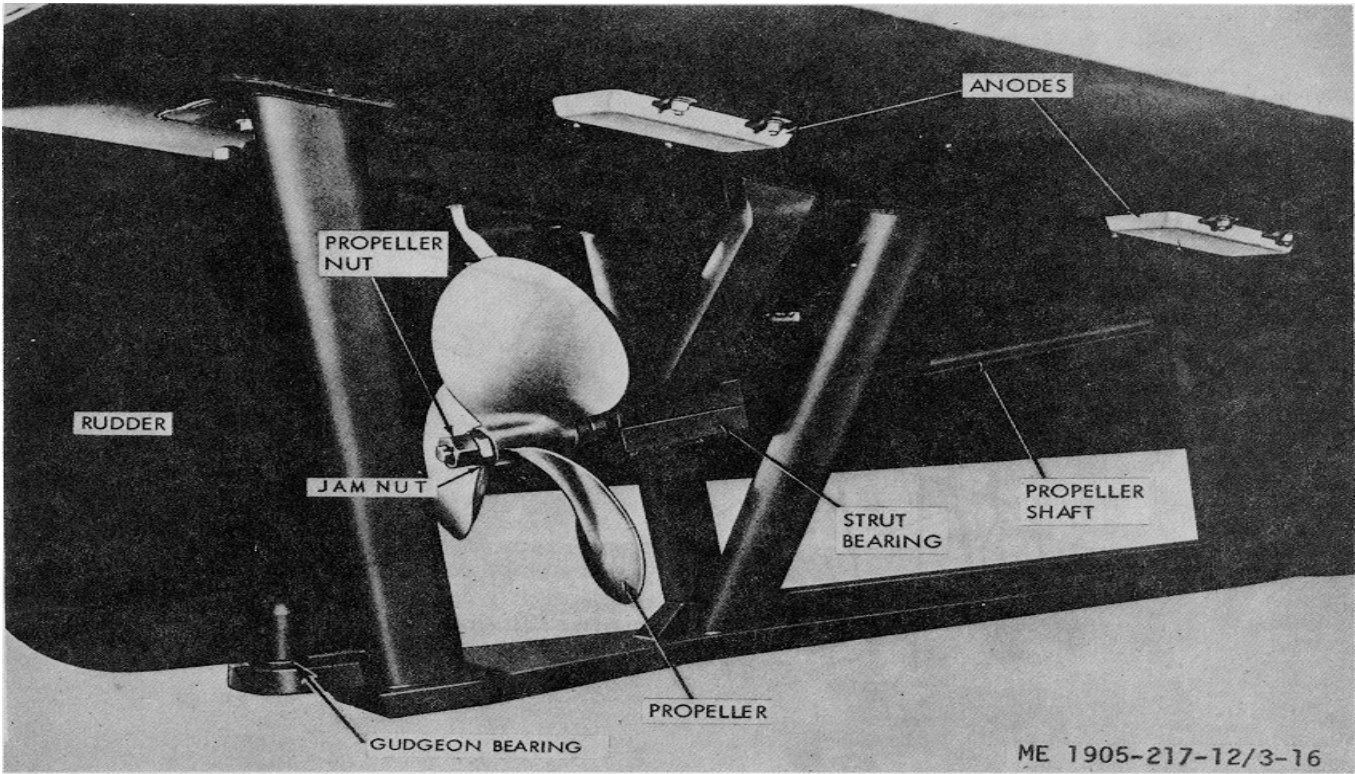

Figure 3-16. Propeller and propeller shaft
- (1) Remove propeller nut and jamnut (fig. 3-16).
- (2) Remove propeller from shaft.